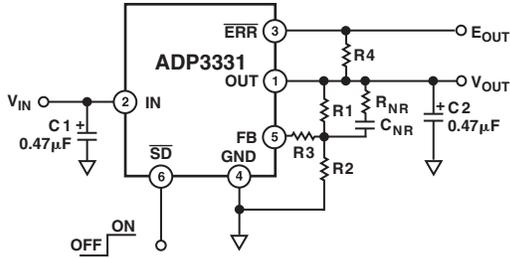

Figure 3. Noise Reduction Circuit
Noise Reduction Capacitor: A noise reduction capacitor can be used to reduce the output noise by 6 dB to 10 dB. This capacitor limits the noise gain when connected between the feedback pin (FB) and the output pin (OUT), as shown in Figure 3. Low leakage capacitors in the 10 pF to 500 pF range provide the best performance. Since FB is internally connected to a high impedance node, any connection to this node should be carefully done to avoid noise pickup from external sources. The pad connected to this pin should be as small as possible; long PC board traces are not recommended. When adding a noise reduction capacitor, use the following guidelines:
The ADP3331 has an adjustable output voltage that can be set by an external resistor divider. The output voltage will be divided by R_1 and R_2 , and then fed back to the FB pin. Refer to Figure 3.
| Changes to Figure 3 | 7 |